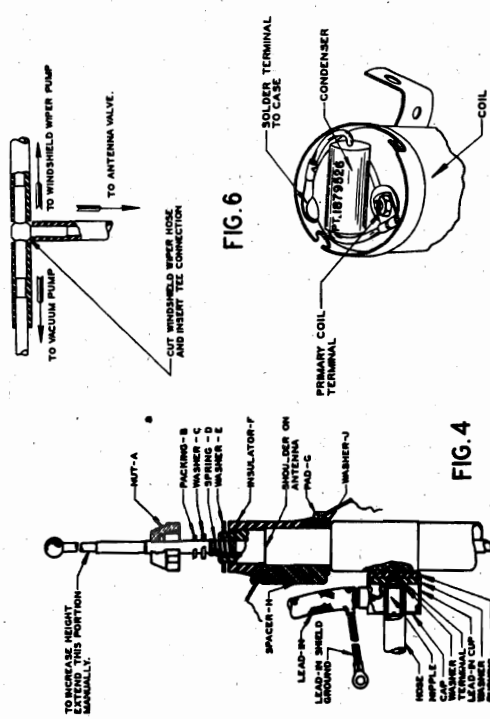

FIG. 4
7. Assemble antenna lead and upper hose connection with parts in order as shown in Fig. 4.
9. Attach the 14" length of hose securely to the upper antenna connection through cap, as shown in Fig. 4.
11. Raise the antenna through the hole in the cowl and install the rubber pad (G) Bakelite insulator (F) Washer (E) Spring (D) Brass Washer (C) Packing gland (B) and nut (A). Tighten nut (A) until the shoulder and the antenna insulator seats against the top of antenna shield as shown in Fig. 4. IMPORTANT - When tightening nut (A) do not get it too tight. Turn it down carefully until the stop is reached, then back off slightly.
To lock the tuner mechanism push on the dial tuning knob hard enough to make it stay latched in. Rotate the dial tuning knob to the right (clockwise) until the knob cannot be turned any further with forcing it. (See Fig. 4) This will lock the tuner mechanism and all the stations that have been set up on the buttons will be locked in place for automatic tuning.